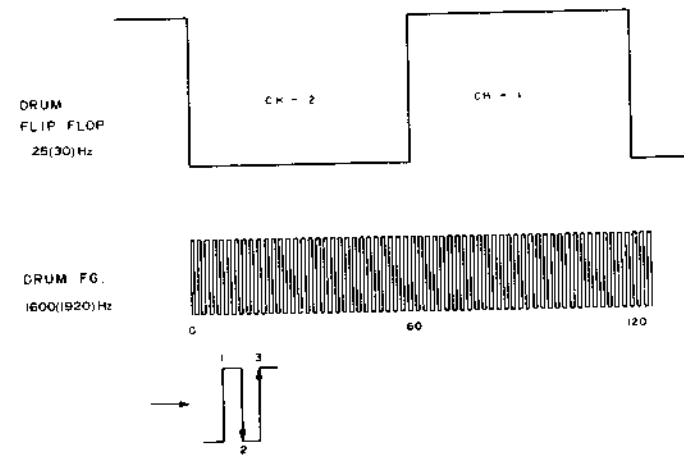

Fig. 3-22 Slow/still control
For accurate detection of the FM noise position, the CPU employs the 25 (30) Hz drum flipflop and 1600 (1920) Hz drum FG signals, as shown in Fig. 3-22.